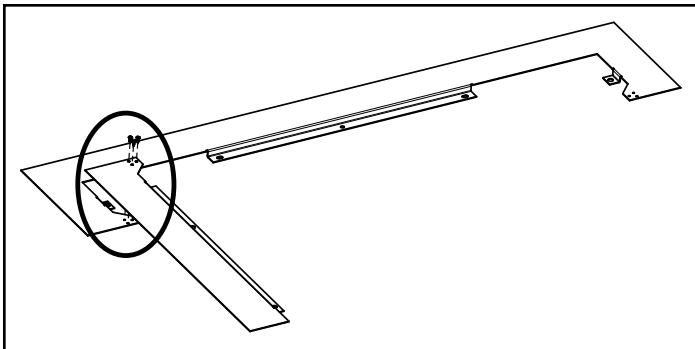

Figure 22.1
1. Align holes from Surround Extension RH Side and Surround Extension Top (Figure 22.1).
2. Using a Phillips head screwdriver and three (3) #8 x 1/2 Phillips head screws; secure Surround Extension RH Side to Surround Extension Top (Figure 22.1).